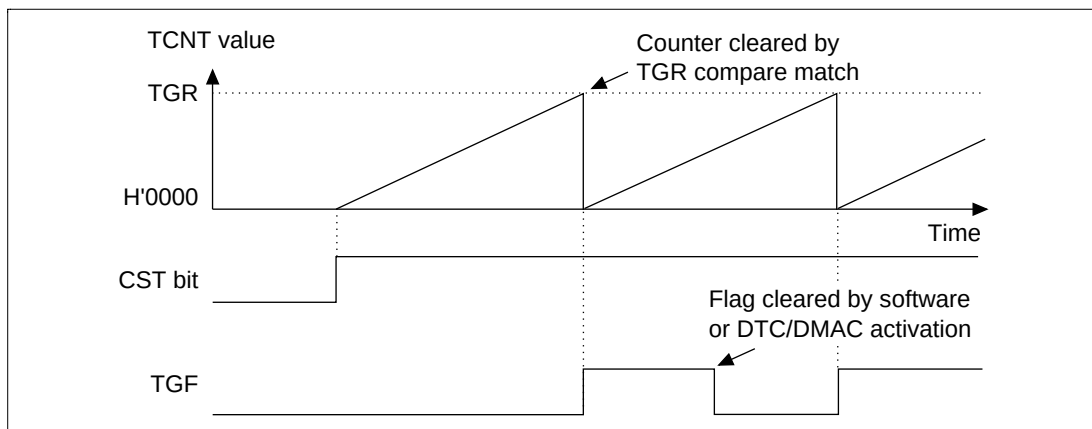

**Figure 12.9 Periodic Counter Operation**
**Periodic Counter Operation Example:** Periodic counter operation is obtained for a given channel's TCNT by selecting compare-match as a TCNT clear source. Set the TGR register for period setting to output compare register and select counter clear upon compare-match using the CCLR2–CCLR0 bits of the timer control register (TCR). After these settings, the TCNT begins incrementing as a periodic counter when the corresponding bit of TSTR is set to 1. When the count matches the TGR register value, the TGF bit in the TSR is set to 1 and the counter is cleared to H'0000. If the TGIE bit of the corresponding TIER is set to 1 at this point, the MTU will make an interrupt request to the interrupt controller. After the compare-match, TCNT continues counting from H'0000. Figure 12.9 shows an example of periodic counting.